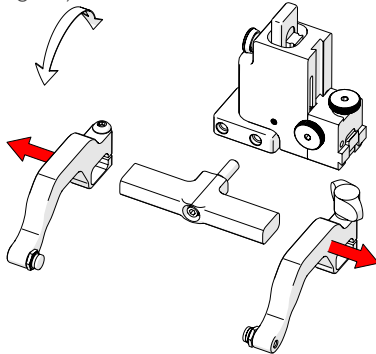

Fig. 44 - Remove probe holder arms
3. Loosen the arm clamp screw and the probe holder arm adjustment knob allowing removal of the probe holder arms (Fig. 44).